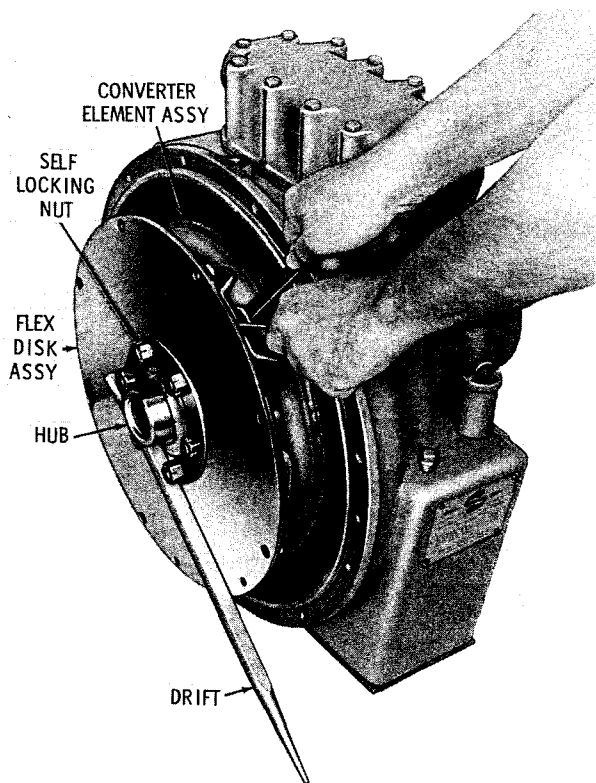

Fig. 7-12. Installing flex disk outer bolts, nuts (TC 250)
(1) Place six 1/2-20 x 1 1/4-inch bolts 9 (A, foldout 4), through flex drive plate 8.
(2) Install drive hub 7, disk and washer assembly 4, flex disks 3, and plate 2. Secure the assembly with six 1/2-20 self-locking nuts 1 (A, foldout 4). Tighten the nuts to 72 to 86 pound feet torque.
(3) Install plate 8 onto converter assembly 11 and secure it with three 3/8-24 x 5/8-inch bolts 5, and nuts 10. Tighten the nuts to 41 to 49 pound feet torque (fig. 7-12).